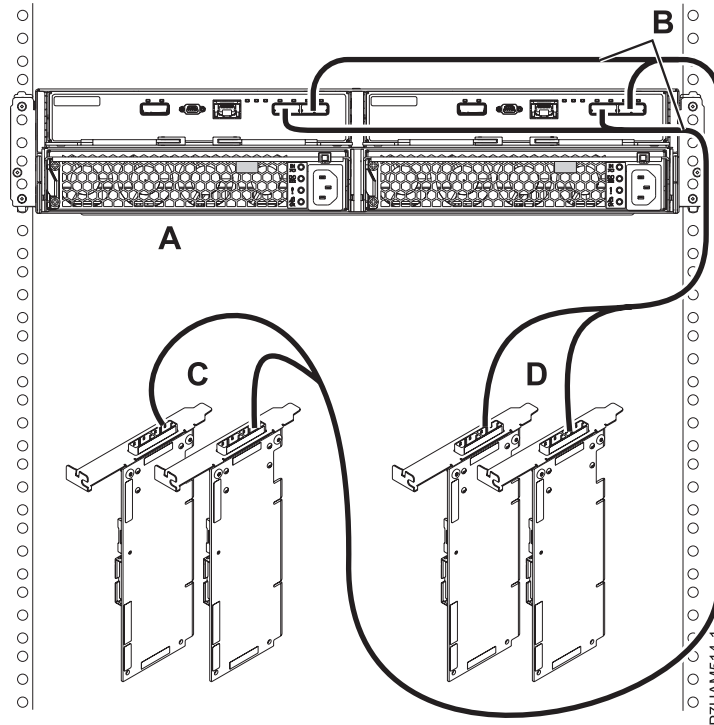

Figure 42. Mode 2 connection of one 5887 disk drive enclosure by using X cables to two SAS adapter pairs
16. Perform the mode 2 connection of one 5887 disk drive enclosure (A) by using X cables (B) to two SAS adapter pairs as shown in Figure 42 on page 83.